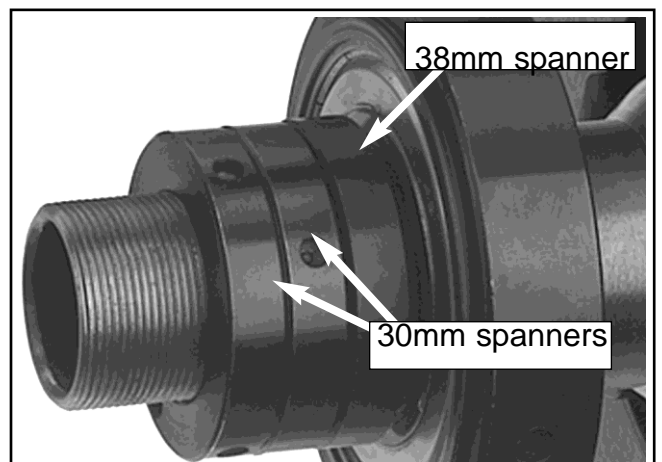

Figure 13. Spanner nut positioning for locking stroke adjustment.
2. Secure the 38mm spanner nut against the outboard side of the bearing housing and then secure the 30mm spanner nuts against the 38mm spanner nut as shown in **Figure 13**. Note—Be sure that the 30mm spanner with the setscrew is on the outside, with the setscrew accessible.